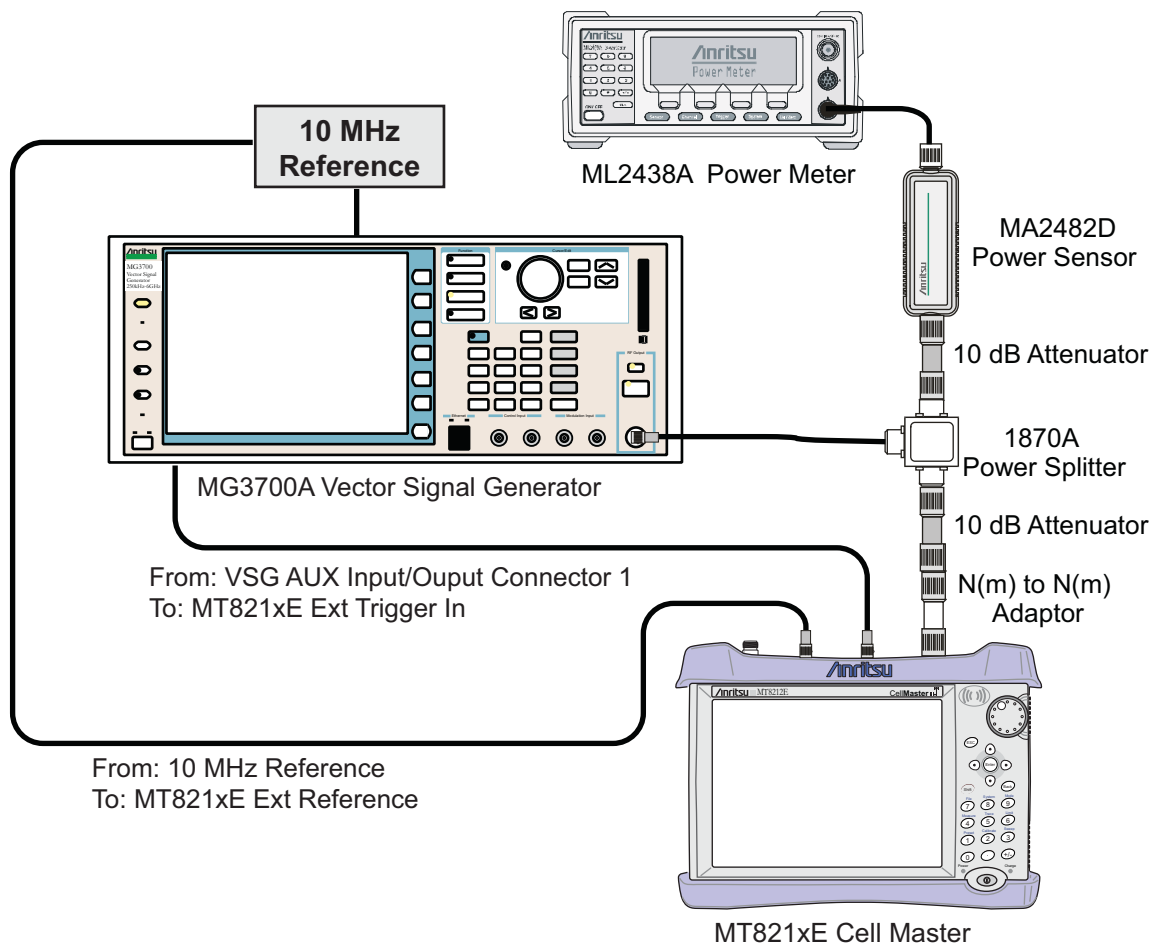

Figure 5-11. Fixed WiMAX Signal Analyzer Option Verification
3. Connect the equipment as shown in Figure 5-11.
3. Connect the equipment as shown in Figure 5-11 on page 5-51.